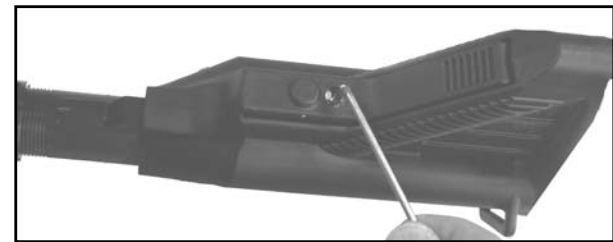

Fig. 35 – Buttstock Tightening Screw
- b. Check to ensure that the buttstock tightening screw is loose before attempting to remove the buttstock. If tight, insert the large tip (3mm hex) of the MR556A1 Disassembly Tool into the tightening screw and rotate (but do not completely remove) counter clockwise (Fig. 35).